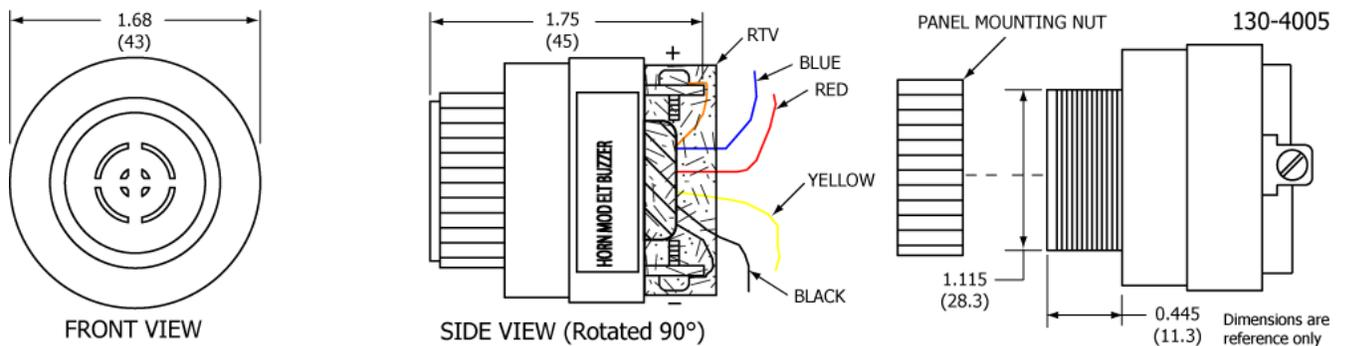

Figure 34 Modified Buzzer Outline and Dimensions
- 1) Fabricate a bracket suitable for supporting the buzzer. See Figure 34 Modified Buzzer Outline and Dimensions.